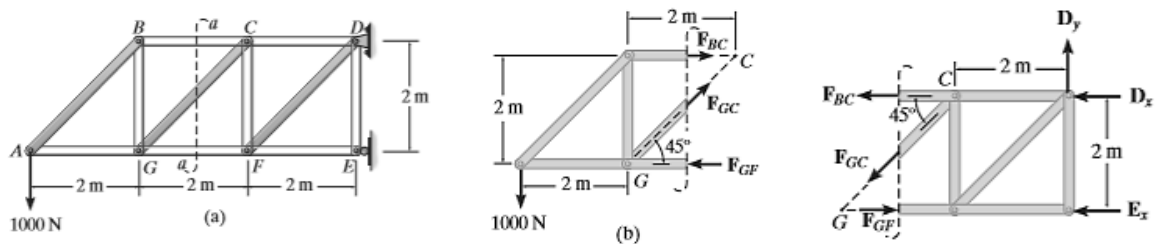

Fig. 4
4. Determine the internal forces in truss members **BC**, **GC** and **GF**, using *Methods of Sections* and state whether it is in tension or compression. (Fig. 4)